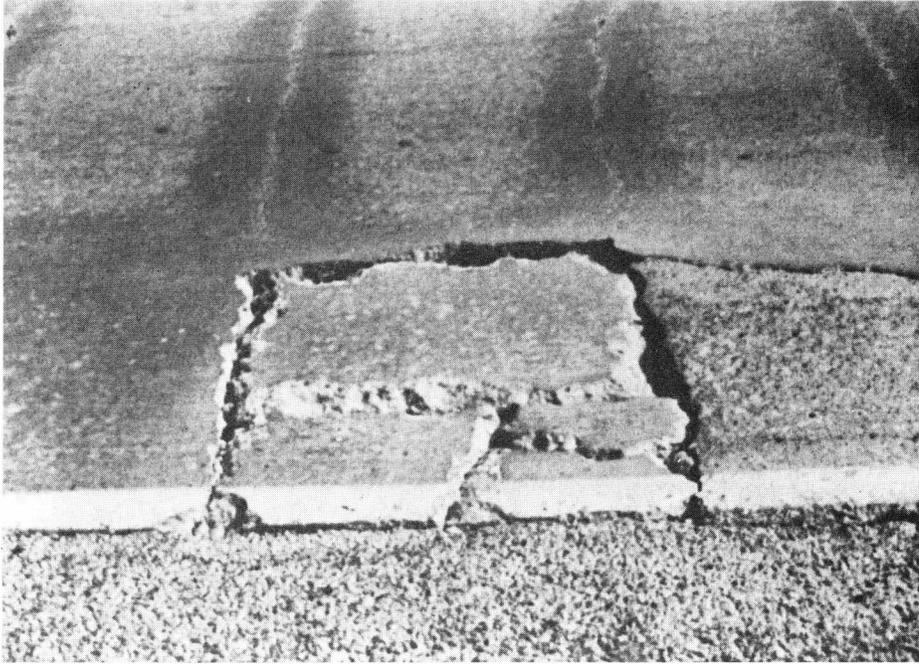

Figure 5.2 -- Punchout
A punchout is a block of pavement formed when one longitudinal crack crosses two transverse cracks (Figure 5.2). Although usually rectangular in shape, some punchouts may appear in other shapes.
3. If an "old" punchout less than 10' long has deteriorated into smaller punchouts, such as shown in Figure 5.2, rate only the single "old" punchout. If the "old" punchout is greater than 10' long, rate one punchout for every 10' of length.